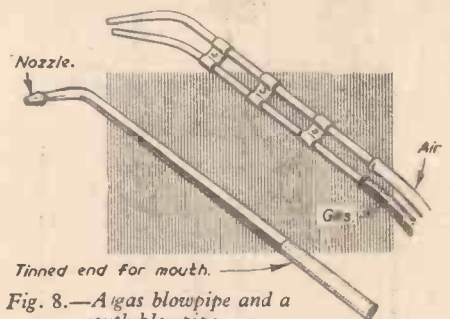

Fig. 8.—A gas blowpipe and a mouth blowpipe.
(4) A gas blowpipe. These can be obtained from any well-stocked ironmonger or tool shop (see Fig. 8).